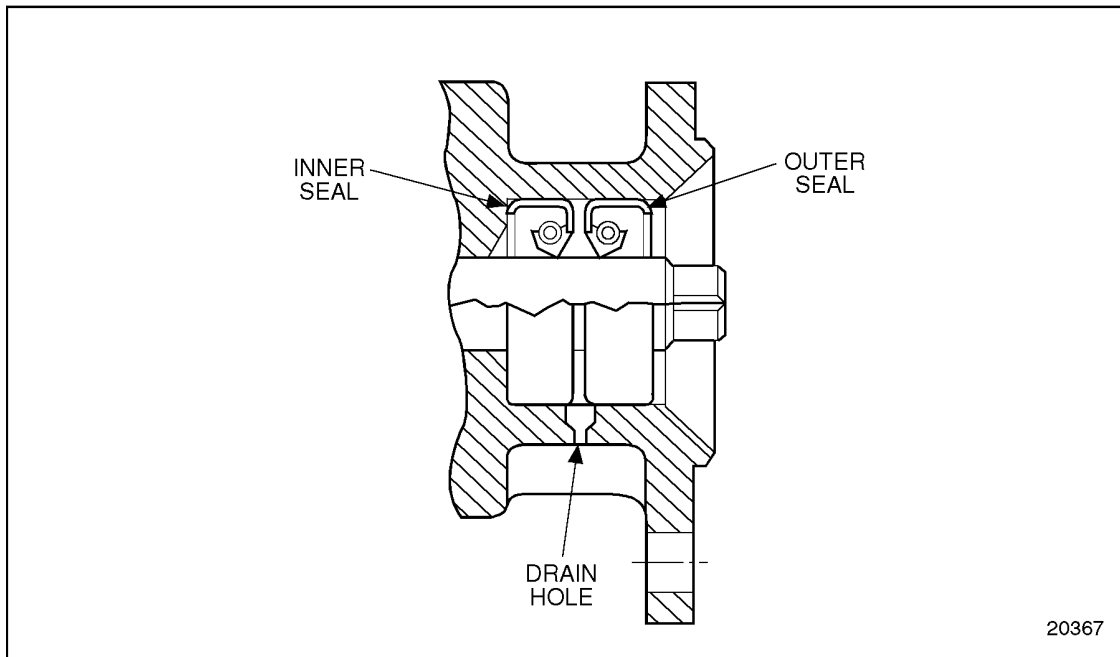

Figure 2-32 Fuel Pump Oil Seal Arrangement
Two oil seals are pressed into the bore in the flanged side of the pump body to retain the fuel oil in the pump and the lubricating oil in the fuel pump drive and gear case. The oil seal vent (4) (see Figure 2-31) serves as a vent passageway in the body between the inner oil seal and the suction side of the pump. This prevents building up any fuel oil pressure around the shaft ahead of the inner seal. The oil seals are installed with the lips of the seals, see Figure 2-32.
3. Place oil seal on installer pilot with seal case against the adaptor. To insure proper assembly, seals must be installed in the proper location. See Figure 2-32.